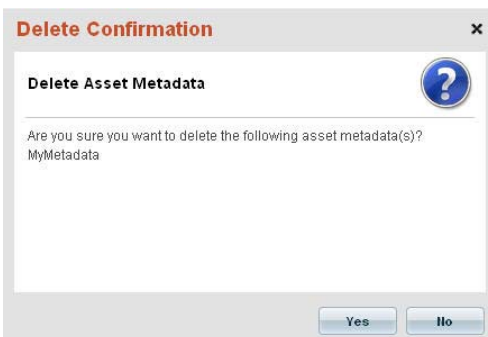

FIG. 257 Delete Confirmation dialog - Asset Metadata
2. The system will prompt you to verify this action via the *Delete Confirmation* dialog before the selected Asset Metadata Types are deleted (FIG. 257).